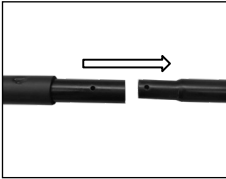

fig 1.
1. Ensuring the locking holes are aligned, insert the Upper Handle [3] into the Lower Handle [2] [fig.1].